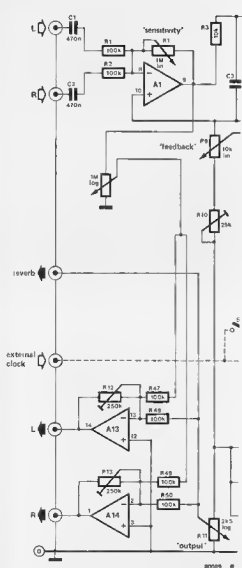
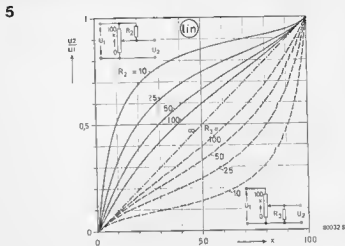

Figure 6. For the phasing effect an additional control is required to blend the delayed to the undelayed signal. A single control is needed for mono operation.
Figure 5. These characteristics can be obtained by adding one resistor to a linear potentiometer.
In order to obtain the desired phasing effect, an additional control is required for blending the delayed to the undelayed signal. This modification is suggested in figure 6, for mono, and figure 7 for stereo operation, the latter featuring a mono/stereo switch and a 500 (470) k Ω tandem volume control. The phasing effect is most pronounced when the delayed and undelayed components are of approximately the same intensity.
The possibilities are plotted in a fascinating array of graphs. Figure 5, for example, shows what can be achieved by adding one fixed resistor to a linear
potentiometer. The potentiometer resistance is taken as 100 'units'; the fixed resistor value can then be given as a percentage. 'R = 25', say, means that the value of the fixed resistor is 25% of that of the potentiometer — a 470 k potmeter and a 120 k fixed resistor is a close approximation. In figure 5, the full lines in the upper left-hand half correspond to the situation where the fixed resistor is mounted between the top of the potmeter and the wiper; the dotted lines show what can happen if the resistor is mounted in the position shown for R3. Note that the two plots for R = 10 (i.e. one-tenth of the total potentiometer resistance) are fairly close approximations of the anti-log and log characteristics. This means that a 4k7 lin potmeter can be modified to 4k7 log by adding a 470 Ω resistor between the wiper and the 'low' end! For what it's worth, the theoretical results of 'padding' a log potentiometer with one resistor are given in figure 6. The upper plot for R2 = 10 is a reasonable approximation of a linear characteristic. Anybody who feels like trying it is referred to figure 2. . .
Figure 6. Provided one has access to a logarithmic potentiometer with a theoretically ideal characteristic, these modified characteristics can be obtained by adding one fixed resistor.